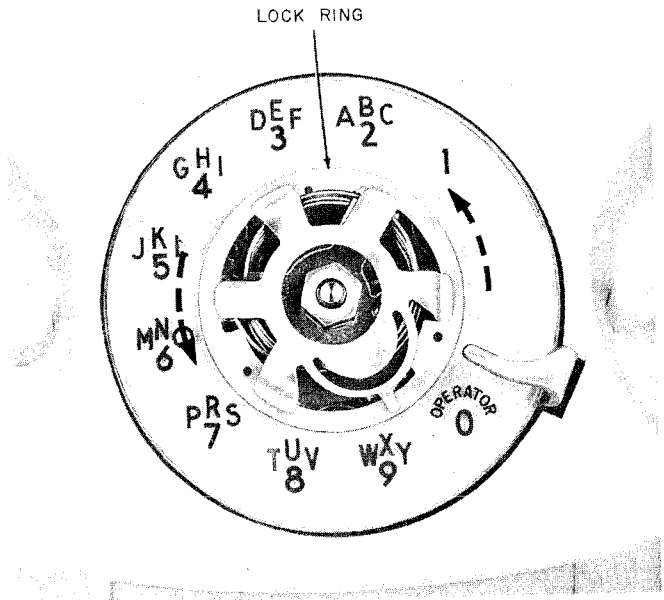
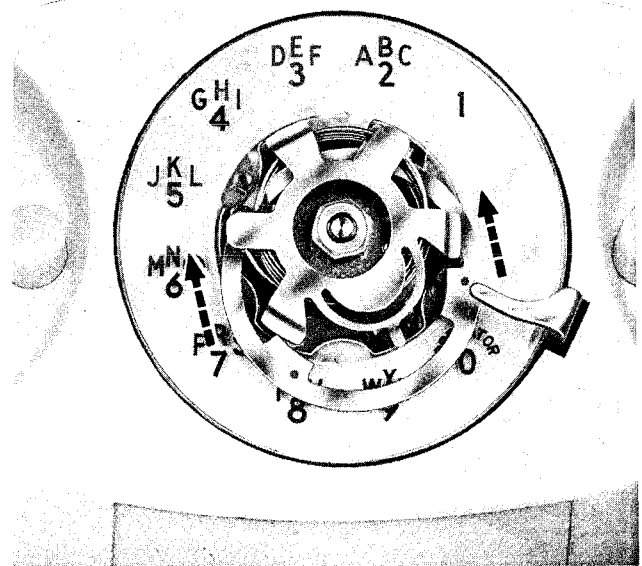

Fig. 22—8-Type Dial, Fingerwheel Removed to Show Lock Ring
Fig. 23—Lock Ring in Extreme Forward Position for Removal
- (1) Remove plastic fingerwheel (see 3.23).
- (2) Remove lock ring by rotating ring counterclockwise until it is free (Fig. 22). Then raise ring until it is just under clamp plate and slide toward rear of dial (Fig. 23) until upper end of ring can be lifted over clamp plate. Slide ring toward front of dial and remove.
- (3) Lift number plate off dial.
- (4) Before placing new number plate on the dial, wipe face of light shield clean.